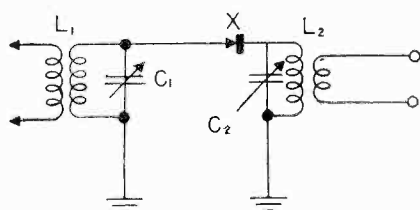

FIG. 2
2. Input tuned circuit L1-C1 resonates broadly in the new FM band and passes the signal along to crystal detector X (Fig. 2).